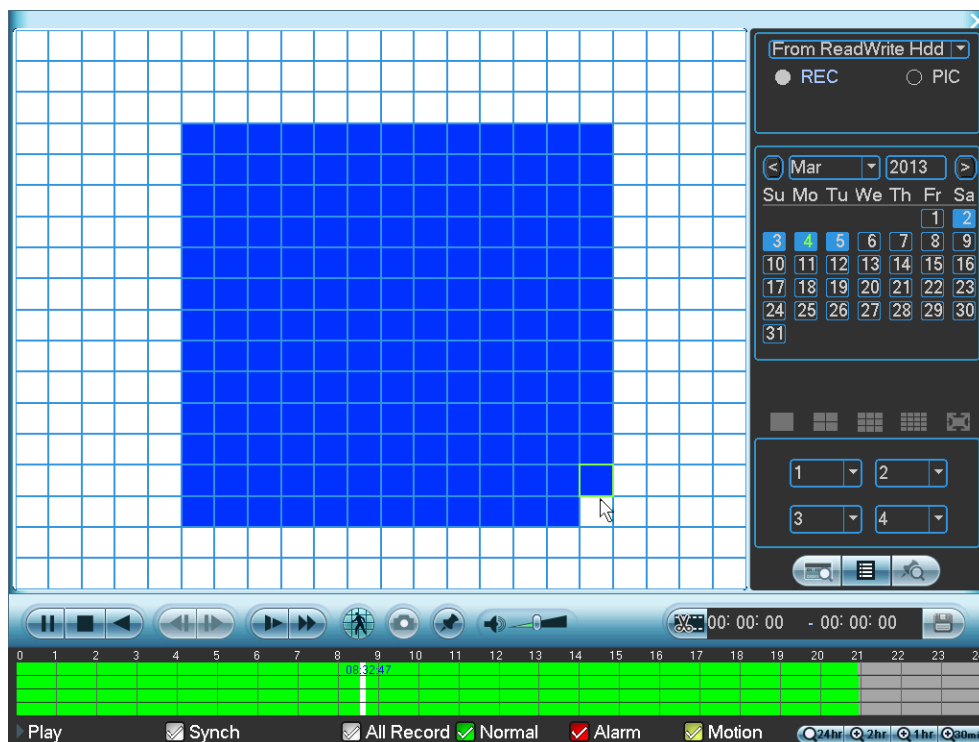

Figure 2-9
2. Left-click and drag to select smart search zones, that is, the areas on the image where you want to search for motion activity. See Figure 2-9. There is no motion detection zone by default—you must select one.